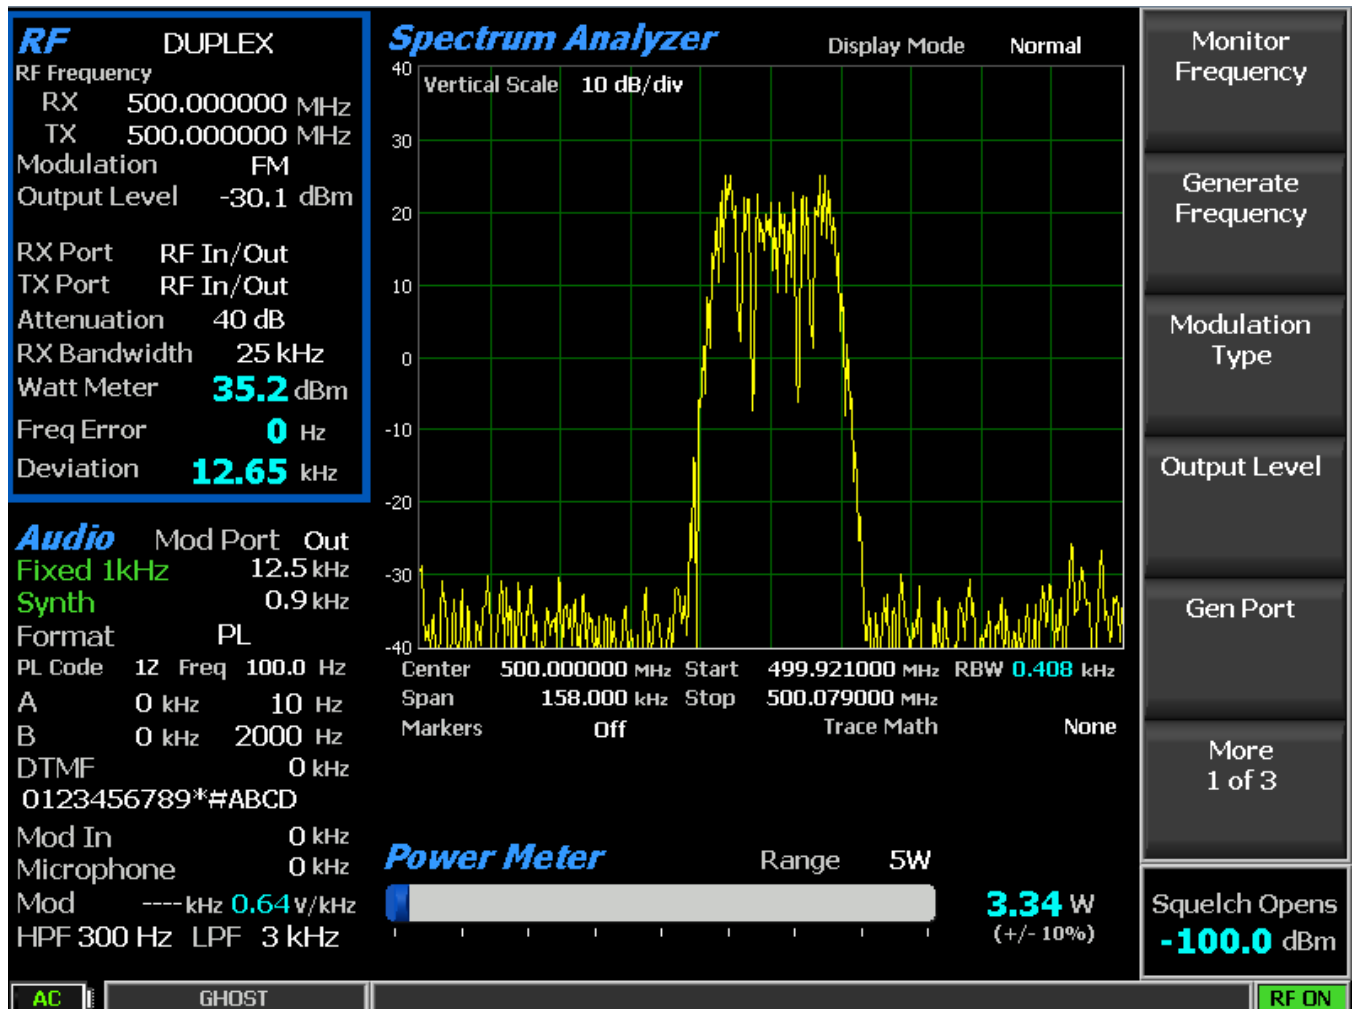

Figure 3.2.1-2 Monitor Mode submenu after RF Zone soft key press
To adjust the RF settings press the hot key 1. The RF Zone area of the display highlights and the soft key submenu shown in Figure 3.2.1-2 appears with the following selections: